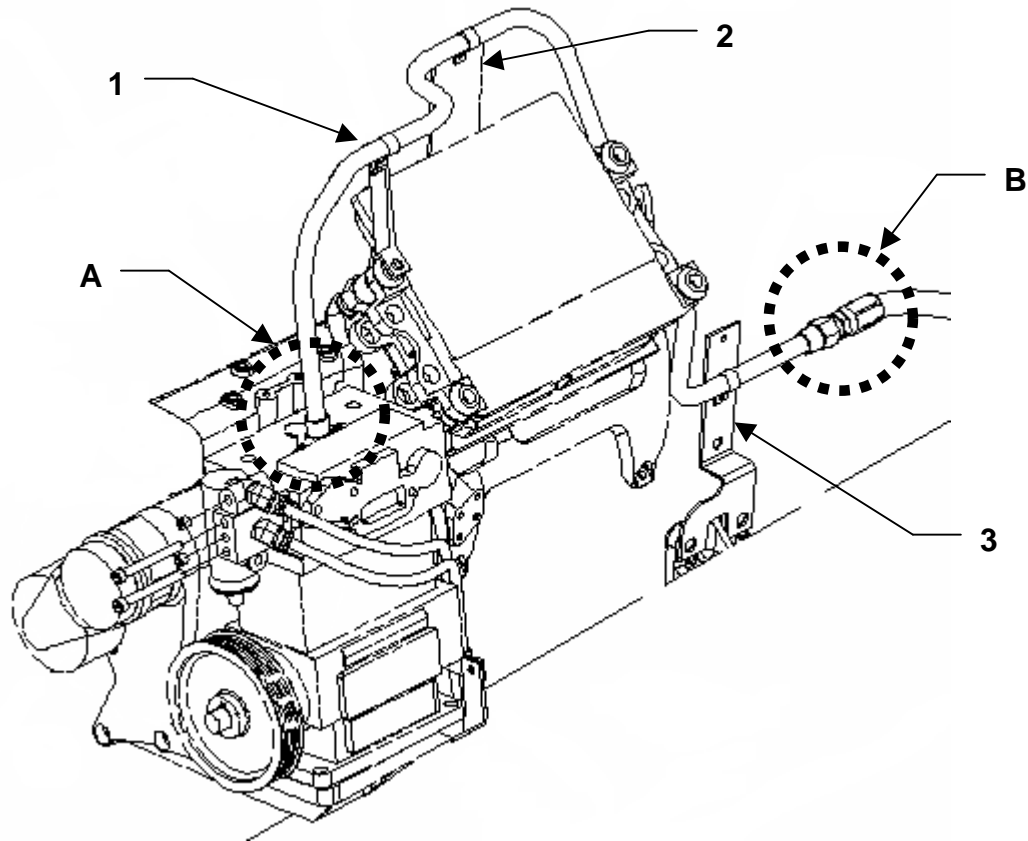

Figure 4
1. The air compressor discharge tube is secured to the engine by three (3) sets of extension clip assemblies. (**Figure 4**)
3. Loosen compression fitting nut from air compressor discharge. (**Figure 4, area A**)
4. Remove chassis air supply hose from discharge tube. (**Figure 4, area B**)